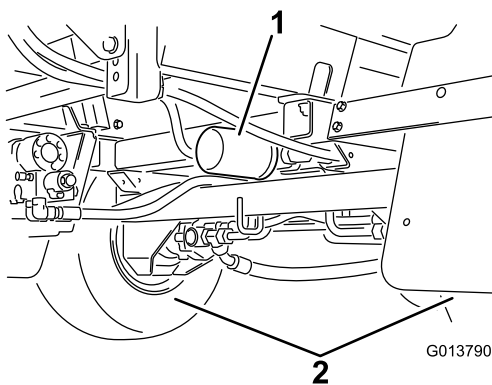

Figure 98
2. Locate the 2 hydraulic filters on the machine (Figure 97 and Figure 98).